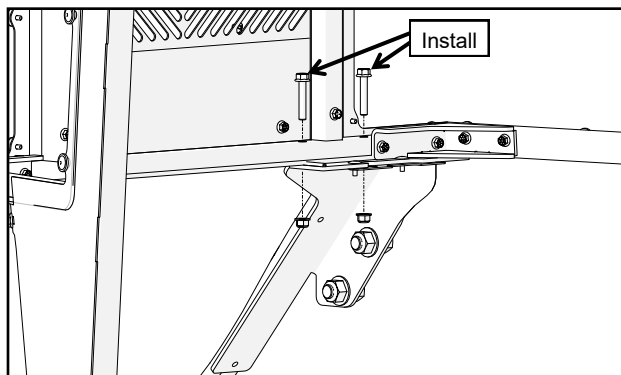

Fig. 2.7 (Install Back of Cab Screws)
- 2.7** Install the back of the cab to R.O.P.S mounts per Figure 2.7.